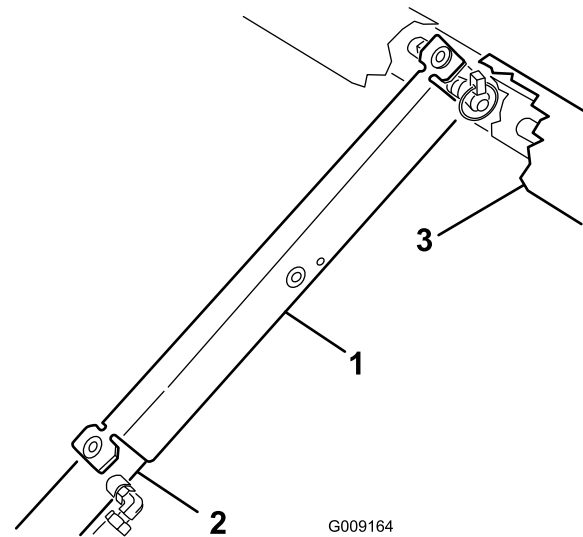

Figure 46
7. Push the bed support onto the cylinder rod, making sure the support end tabs rest on the end of cylinder barrel and on the cylinder rod end (Figure 46).